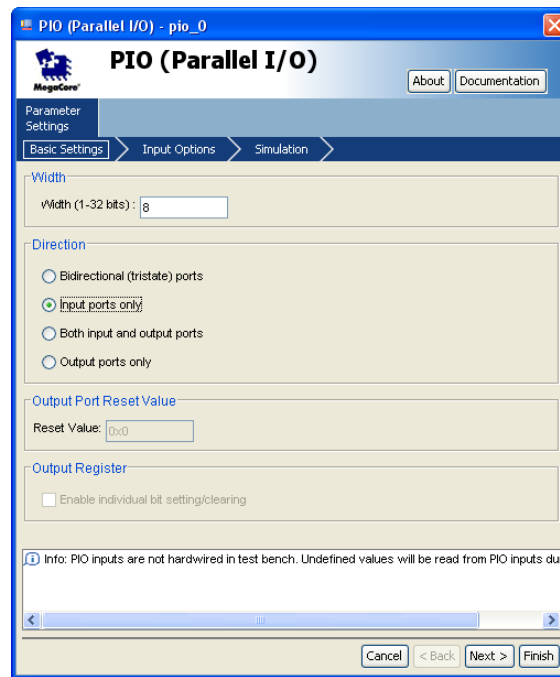

Figure 10. Define a parallel input interface.
- Select Peripherals > Microcontroller Peripherals > PIO (Parallel I/O) and click Add to reach the PIO Configuration Wizard in Figure 10